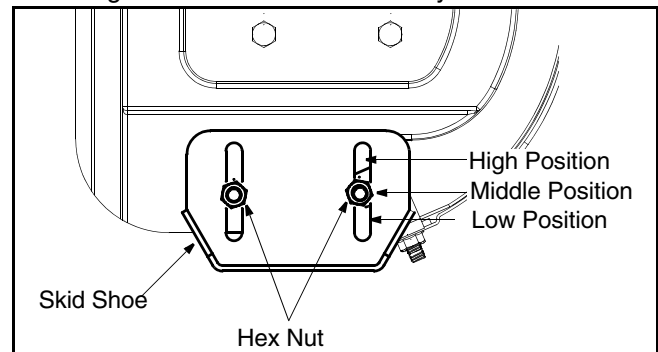

Figure 8
1. Adjust skid shoes by loosening the four hex nuts and carriage bolts and moving skid shoes to desired position. See Figure 8. Make certain the entire bottom surface of skid shoe is against the ground to avoid uneven wear on the skid shoes.